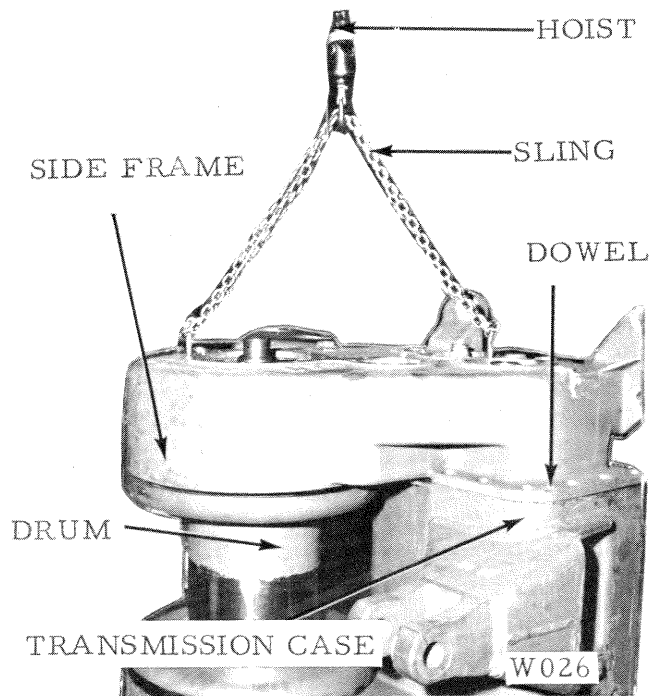

Figure 26
17. If the transmission case and side frame are separate castings, unscrew the bolts holding them together. Fig. 25. Attach a hoist and sling to the side frame and lift it off the transmission case. Fig. 26.